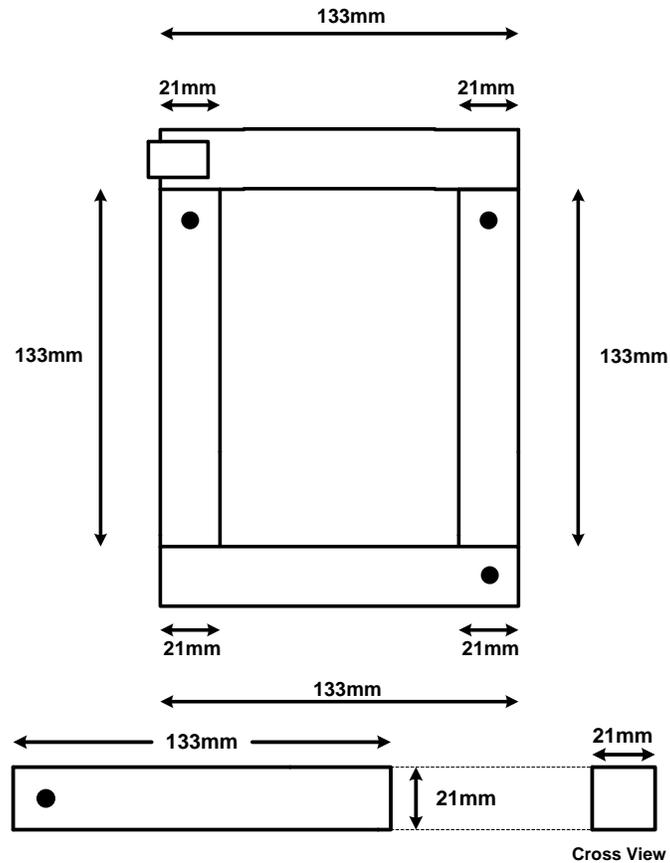

Figure 6: Dimensions of Steel Part of Circuit
- Establish the reluctance introduced by the TWO air gaps. Assume that the cross-sectional area of the air gap will be the same as that of the steel bars. The cross-sectional area of a laminated bar can be found in Figure 6.
- Using the dimensions of the part of the circuit consisting of steel shown in Figure 6, establish an expression for the reluctance of the steel (this should be a function of μ_i , the relative permeability of the iron material). Set this expression equal to your answer above to establish a value for μ_i